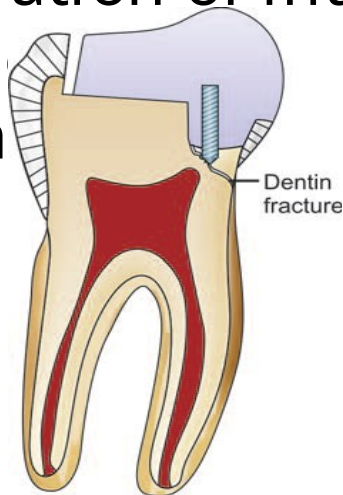

Fig.5.18: Dentin fracture
- Dentinal fracture (**Fig.5.18**) can occur because of concentration of internal stresses because of selection of pin type.